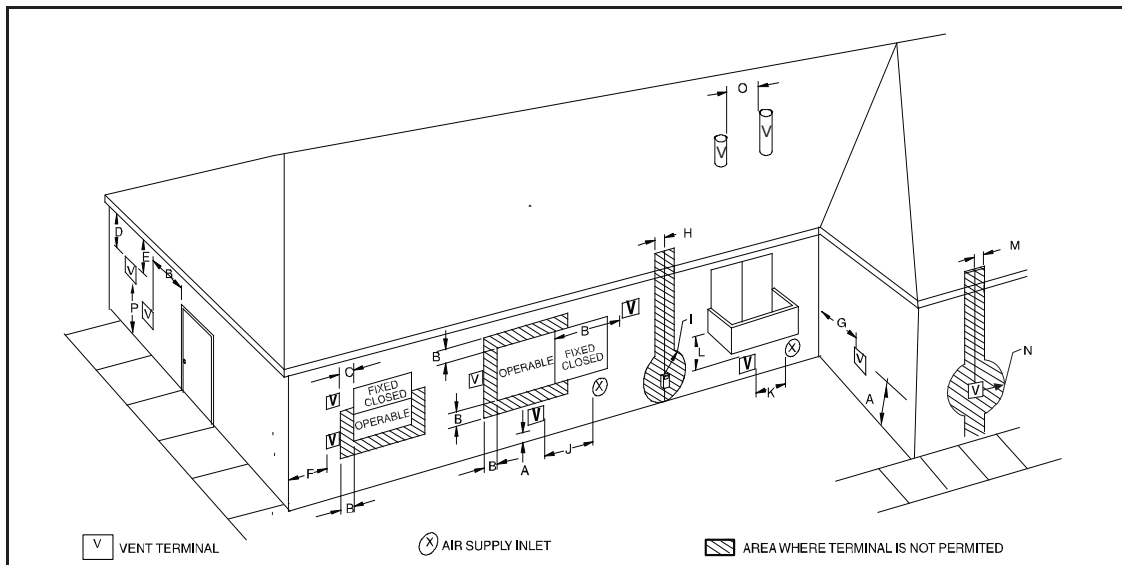
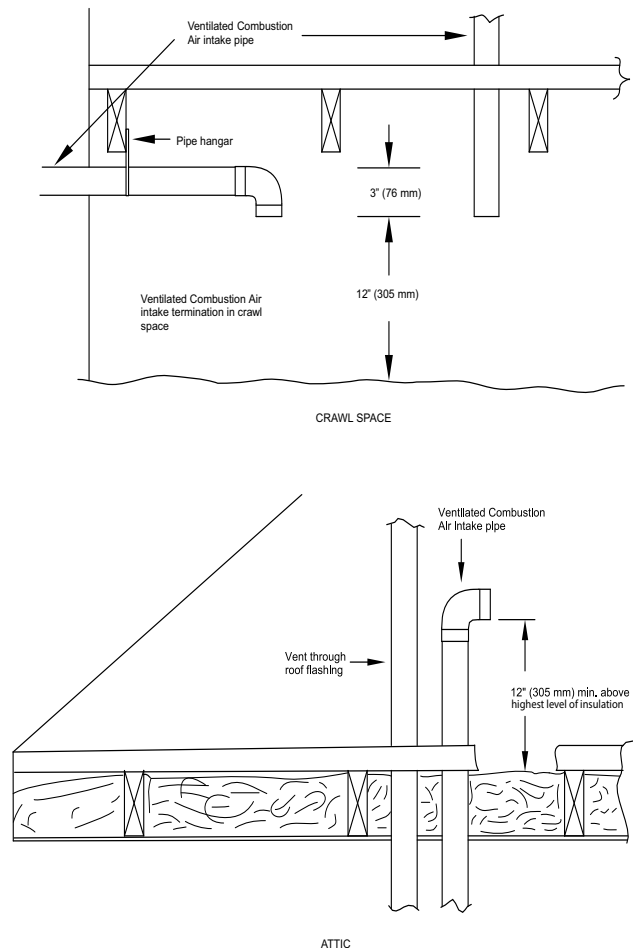

Fig. 44 – Ventilated Combustion Air and Non-Direct Vent Termination Clearance
Fig. 49 – Vent Terminations for Ventilated Combustion Air
In a ventilated combustion air option, the vent terminates and discharges the flue products directly to the outdoors similar to a direct vent system. See Fig. 44 for references to clearances required by National code authorities.
in the Air For Combustion and Ventilation Section. Do not use an abandoned chimney to supply outside air to the furnace. See Fig. 44 for references to vent clearances required by National code authorities.
For vent termination clearance, references to National codes are shown in Fig. 43 for Direct Vent/2-Pipe system and Fig. 44 for Ventilated Combustion Air/Non-direct Vent/1-Pipe system. For exterior termination arrangements, refer to Fig. 41 for Direct Vent/2-Pipe system and Fig. 42 for Ventilated Combustion Air/Non-Direct/1-Pipe system. Contact Local code authorities for other requirements to and/or exemptions from the National codes shown in the figures.
1. Comply with all clearance requirements stated in Fig. 43 or Fig. 44 per application.
The vent pipe for a Ventilated Combustion Air System must terminate outdoors. See Fig. 44 for references to vent clearances required by National code authorities. Allowable vent terminations are shown in Fig. 42. The combustion air pipe terminates in a well-ventilated attic or crawl space. Follow the clearances as shown in Fig. 49.
The vent pipe for a Non Direct Vent (1-pipe) system must terminate outdoors. See Fig. 44 for references to vent clearances required by National Code authorities. Allowable vent terminations are shown in Fig. 42.